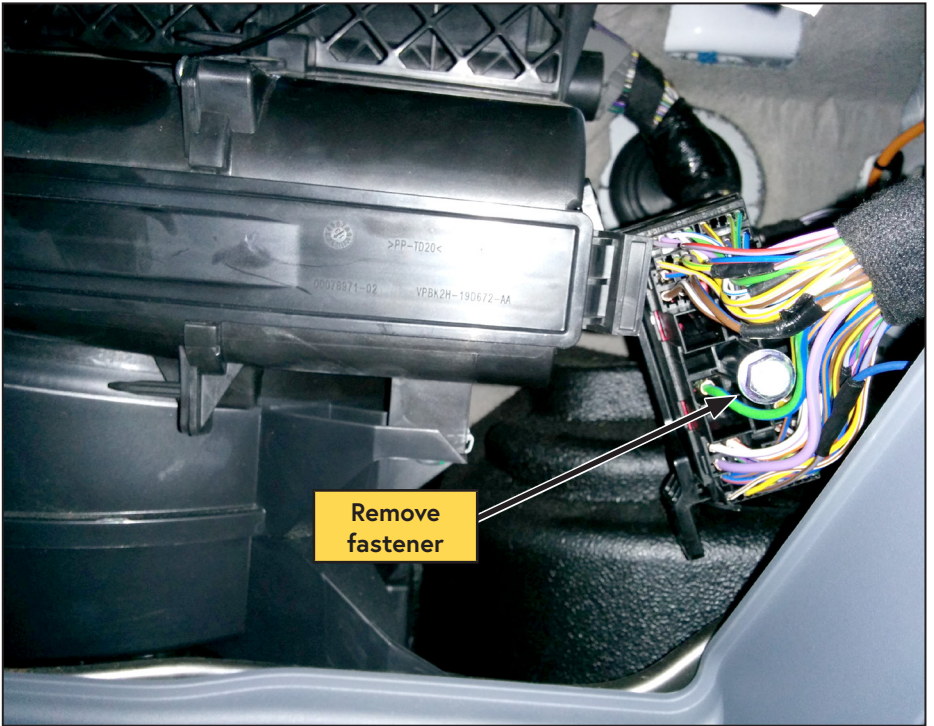

Figure 69 — Connector C210
- Gently pull the connector toward the driver side and remove the 10 mm bolt to separate the connector (Figure 69).